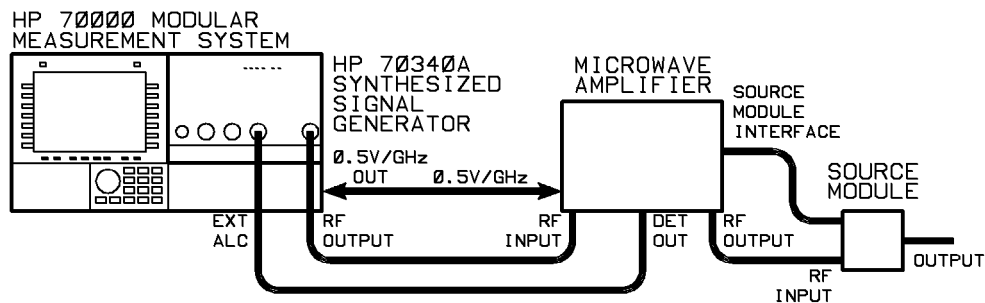

Figure 3-11. Millimeter Wave Equipment Setup
1. Connect the equipment as shown in the Figure 3-11: